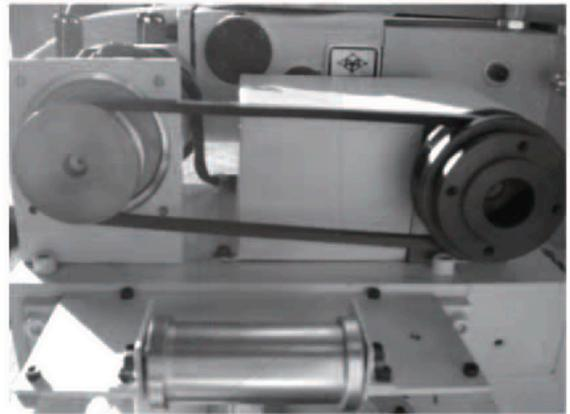

Fig.3d
- a. Take off the belt cover of the zipping machine (see **Fig.3d**), and arrange the gap width of the zipping machine's bell pulley. The wider the gap, the slower the spinning speed; the narrower the gap, the faster the spinning speed.